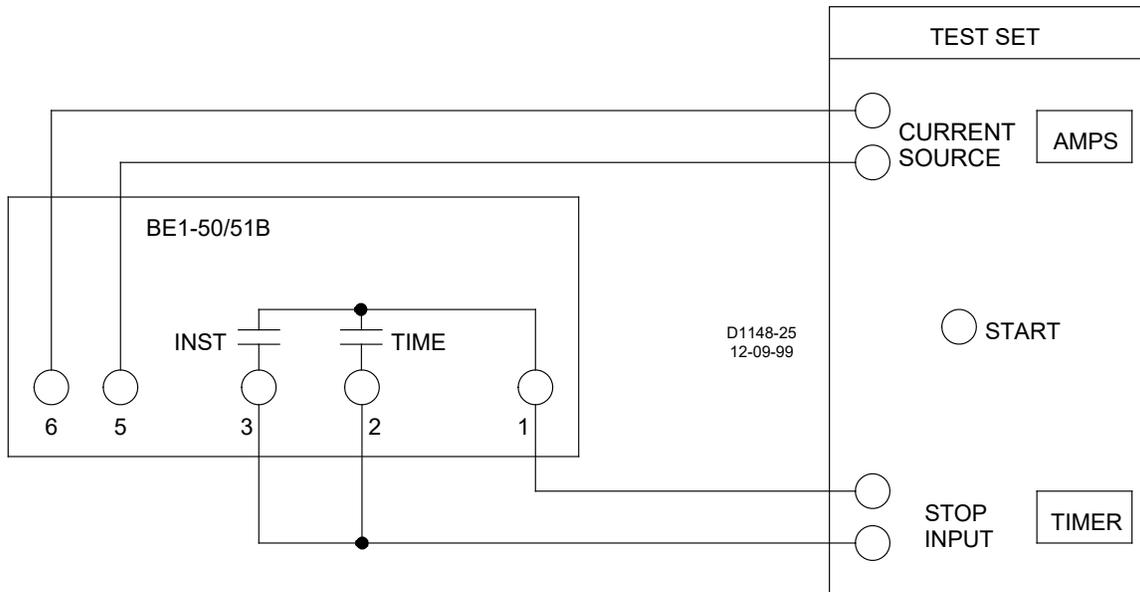

Figure 5-1. Pickup and Timing Test Setup
The following procedures verify operation of the BE1-50/51B-229 Overcurrent Protection Relay. The test setups illustrated in Figures 5-1 and 5-2 are intended as an illustration of the principles involved. Other test setups known to be capable of testing with the stated and implied tolerances (including equipment specifically designed for testing relays) may be used.
- a. Connect test setup as shown in Figure 5-1.
Single-phase relays such as the BE1-50/51B-229 are normally used in groups of four (three phases and ground) on the protected circuit. This scheme allows one relay to be withdrawn and tested without losing protection. Only three relays are required at any given time to sense all types of faults on a grounded wye system. Refer to Figures 5-1 and 5-2 for recommended test setups.